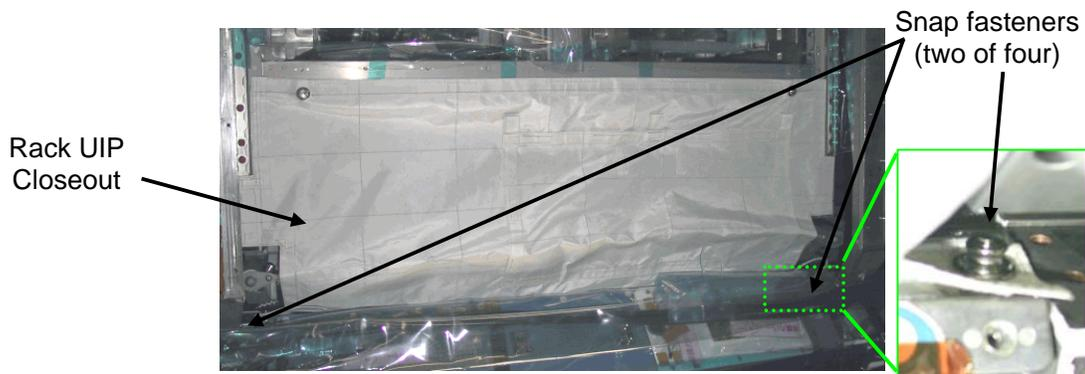

Figure 1.- Rack UIP Closeout.
- 2.2 Release and peel EPS2 Rack UIP Closeout from Standoff, Snap fasteners (two), Velcro. Refer to Figure 1.
7.3 Close Rack UIP Closeout to standoff, Snap fasteners (two), Velcro. Refer to Figure 1.